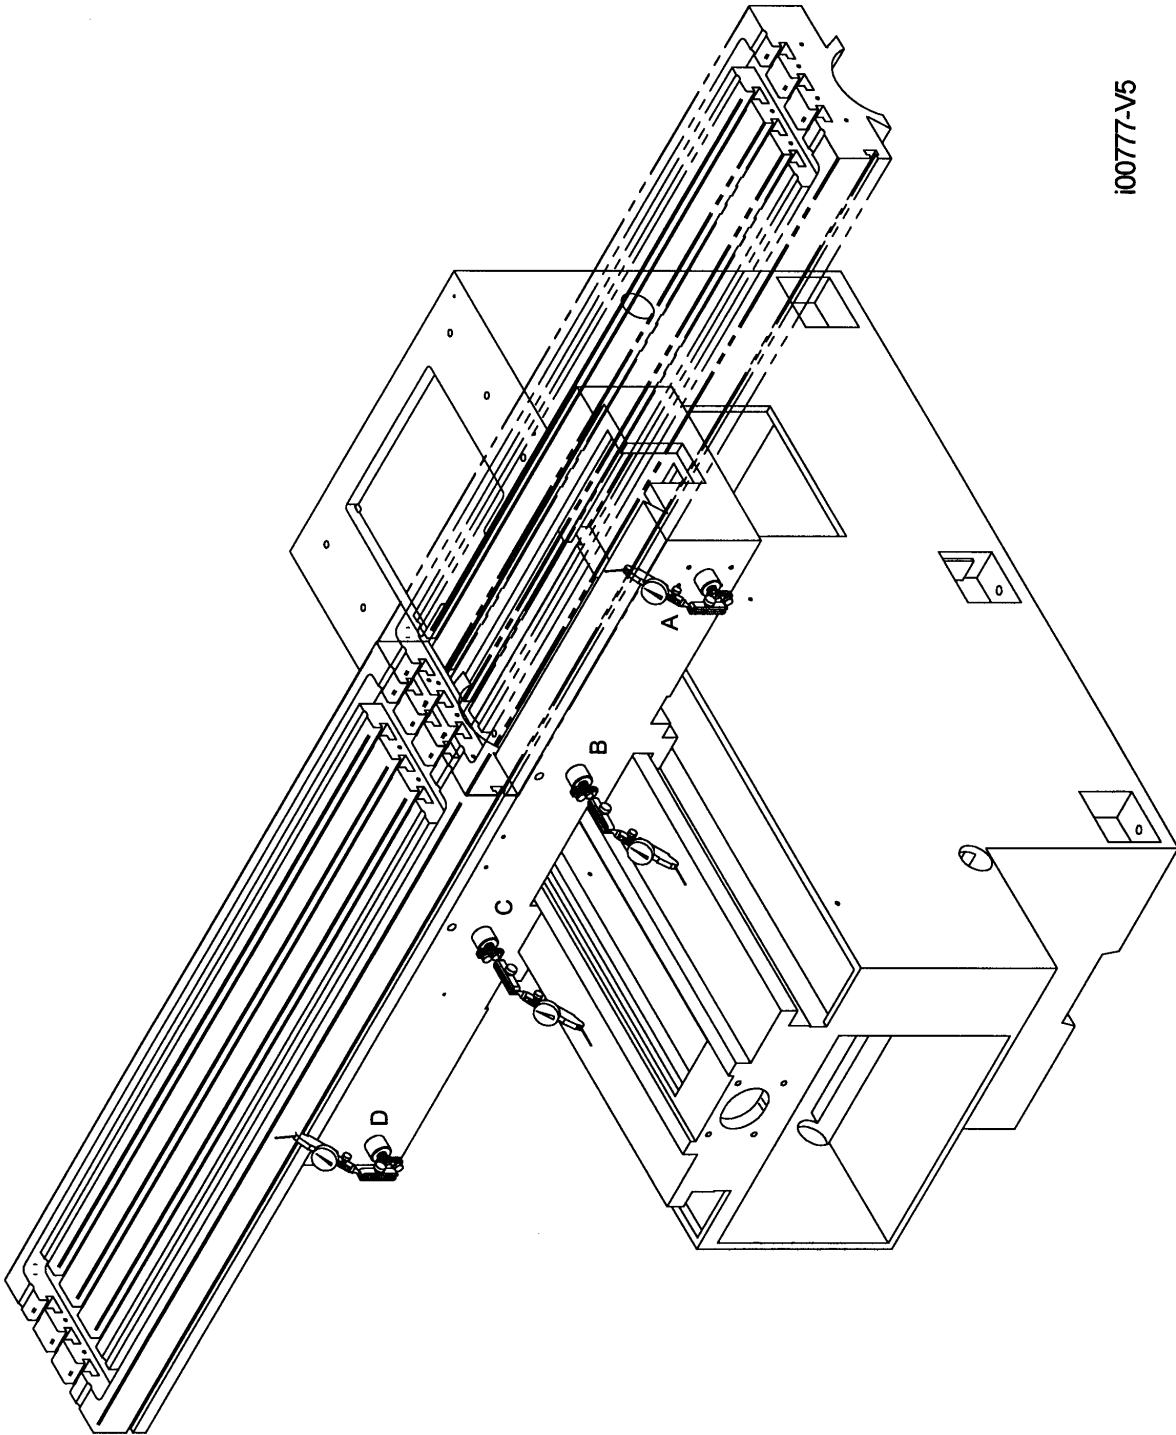

Figure 5-39 - DPMS5, DPM5 & Sport B5 - Table Gib & Saddle Bottom Gib Adjustment
4. Replace the table trays. See Figure 5-39.